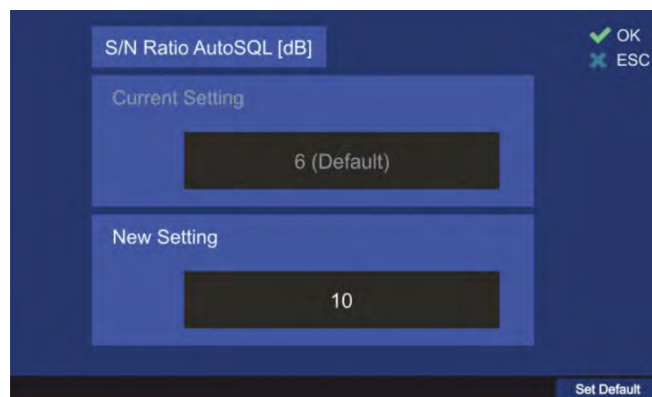

Figure 106. S/N Ratio for auto squelch function
- By pressing the “OK button or hotkey “Edit Value”, while the setting “S/N Ratio AutoSQL [dB]” is marked, the following dialog is opened (s. Figure 106).